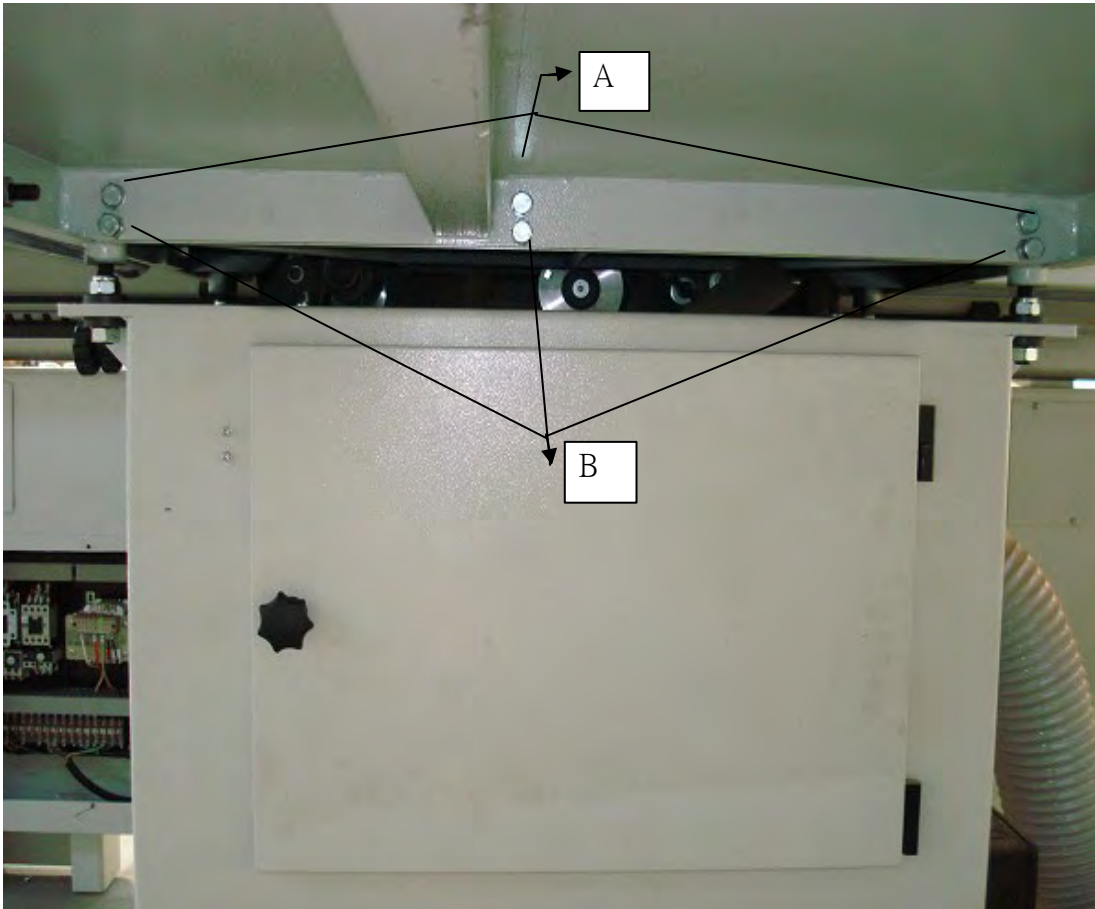

fig 3-5.1
- Screw down the three screw A(fig 3-5.1)
- Adjust the alignment with grub screws B when is needed. (fig 3-5.1)